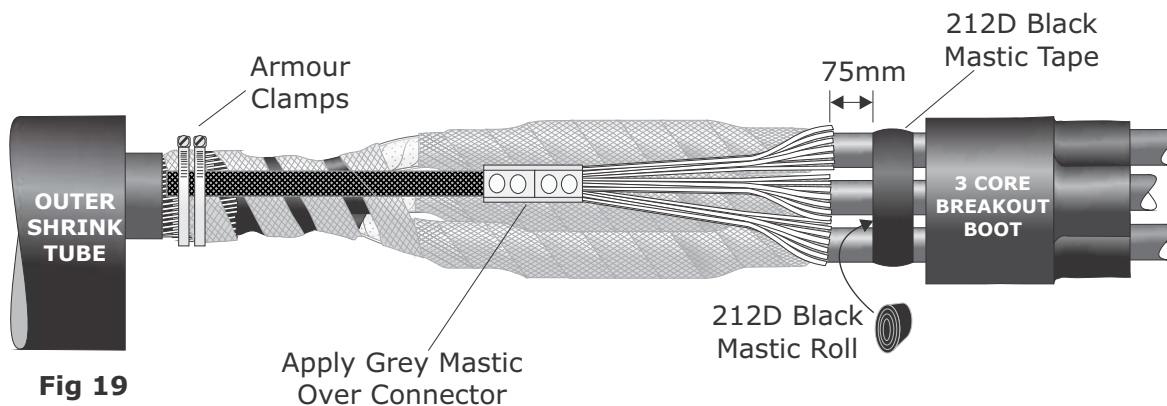

Fig 19
26. Using worm drive clamps connect the tinned copper mesh tails and the long earth strap/s to the armours as in Fig 19.
27. Form the copper wire screens on the single core cables into a conductor and referring to Fig 19, use a mechanical connector to join them to the main earth strap/s from the 3 core pilc cable.
28. Form a strip of black mastic tape into a roll and position between the single cores as shown in Fig 19.
29. Apply a band of black mastic tape over the 3 x single core cables as shown in Fig 19 approx 75mm from the cable sheath cuts.